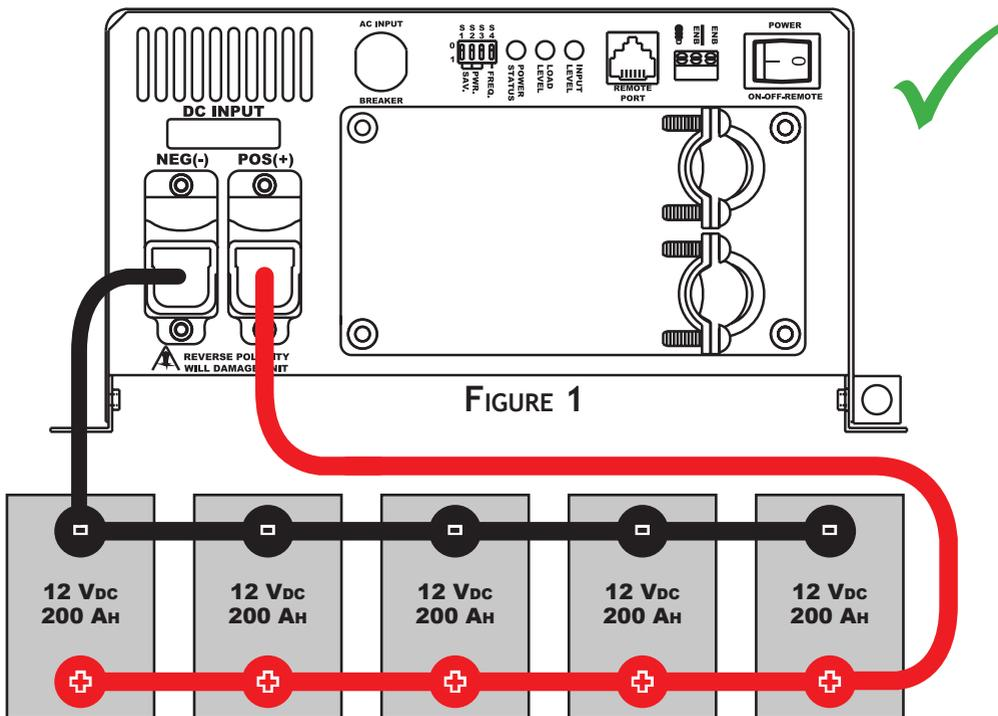

FIGURE 1
### **5.2.1 BRANCHEMENT SYMÉTRIQUE - FIGURE 1**
POUR OBTENIR UNE AUTONOMIE IMPORTANTE, IL EST SOUVENT NÉCESSAIRE DE BRANCHER DES BATTERIES EN PARALLÈLE (//). LE SCHÉMA DE LA FIGURE 1 PRÉSENTE LE BRANCHEMENT DE 5 BATTERIES 12 VOLTS DE MÊMES CAPACITÉS RACCORDÉES EN PARALLÈLE QUI ALIMENTENT LE CONVERTISSEUR EPs.
POUR PRÉSERVER LA LONGÉVITÉ DE VOTRE SYSTÈME DE SECOURS, IL EST INDISPENSABLE QUE CHAQUE BATTERIE SOIT TRAVERSÉE PAR UN COURANT IDENTIQUE. POUR CE FAIRE, IL EST NÉCESSAIRE D'ADOPTER LA TOPOLOGIE DE LA FIGURE 1, MAIS AUSSI DE RESPECTER LES RÈGLES CI-DESSOUS :
POUR CES RAISONS, NOUS VOUS DÉCONSEILLONS D'ADOPTER LA TOPOLOGIE DE LA FIGURE 2, QUI FERA VIEILLIR BEAUCOUP PLUS RAPIDEMENT LA BATTERIE 5, PLUS LA 4, ETC..., ET QUI DONNERA UNE AUTONOMIE PLUS FAIBLE QUE LA TOPOLOGIE DE LA FIGURE 1.
**IMPORTANT : SUR LES FIGURES 1, 2, 3 ET 4 NE FIGURENT PAS LES FUSIBLES DISJONCTEURS ET COUPE-CIRCUITS. C'EST SIMPLEMENT POUR SIMPLIFIER LES FIGURES.**